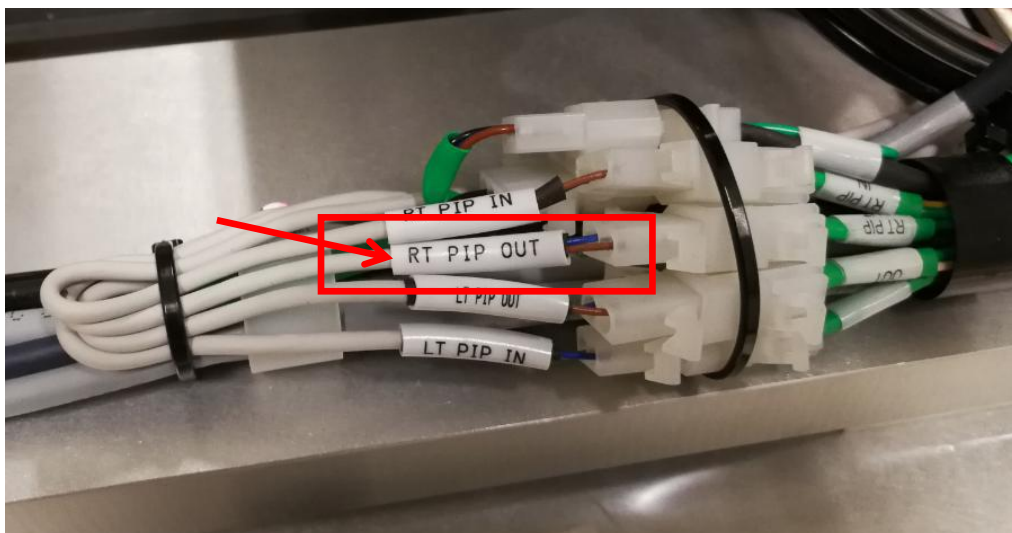

Figure 38 RT PIP Out Connector Removal
5. Identify "RT PIP Out" Label. Unplug Right PIP Out Reed Sensor Cable Connector as shown in Figure 38 below.